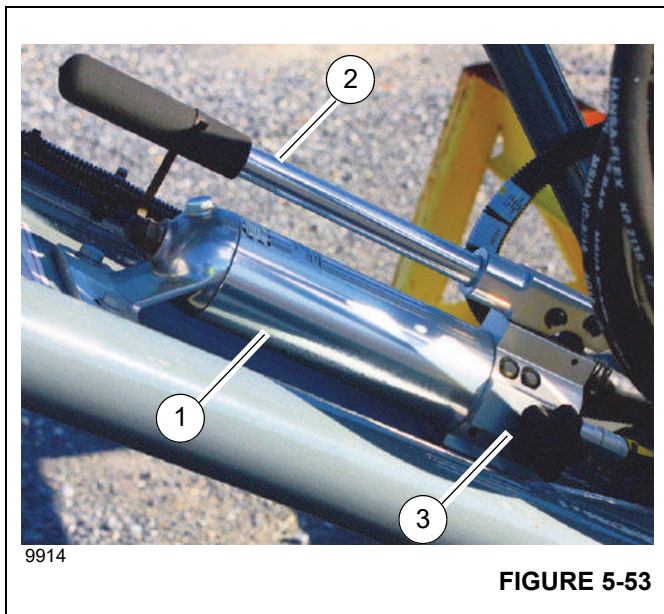

FIGURE 5-53
20. Install four pins (5, Figure 5-39) and retaining clips (6) to secure the boom extension to the boom nose. If necessary, use the jack (1, Figure 5-53) to install the fourth pin: